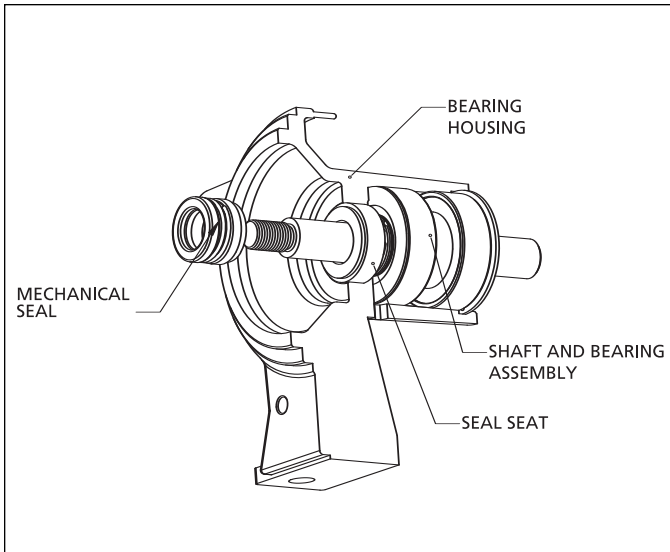

Figure 4 - Seal Removal
4. The seal (part of Ref. No. 5) can now be pulled from the shaft (see Figure 4).
### Seal Assembly Removal and Installation (Figures 4 thru 7)